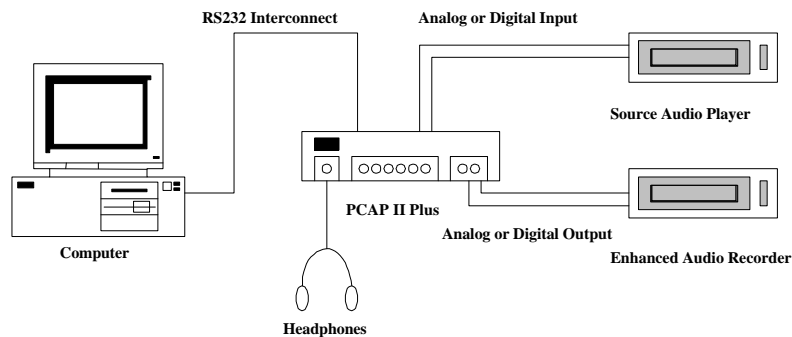

Figure 3-1 PCAP II *Plus* Connection Diagram
1. Set the rear panel INPUT SELECT switch to ANALOG and connect the LEFT and RIGHT channel line-level audio outputs (AUDIO OUT jacks) of your Source Audio Player to the LEFT (PRI) and RIGHT (REF) ANALOG INPUTS RCA jacks on the PCAP II *Plus* external processor rear panel as shown in Figure 3-1. Note that the RIGHT (REF) signal is only used in stereo configuration and with the 2CH Adaptive Filter in mono configuration. Alternatively, for direct digital input of digital audio material, the INPUT SELECT switch can be set to DIGITAL and the digital output of your Source Audio Player can be connected to the INPUT DIGITAL I/O RCA jack.
2. If you wish to record the enhanced audio, connect the line-level audio inputs (AUDIO IN jacks) of your Enhanced Audio Recorder to the LEFT and RIGHT ANALOG OUTPUTS RCA jacks on the PCAP II *Plus* external processor rear panel as shown in Figure 3-1. Alternatively, for direct digital recording of the enhanced audio, connect the OUTPUT
3. Connect your stereo headphones to the PHONES jack on the PCAP II *Plus* external processor front panel as shown in Figure 3-1. Make sure that the MONITOR pushbuttons are set to OUTPUT, LEFT, and RIGHT (the three buttons are “out, in, and in”, respectively). Turn the phones VOLUME control to MIN. It is also recommended that headphones be connected to the Enhanced Audio Recorder's headphone jack to confirm that the output signal is being properly recorded.